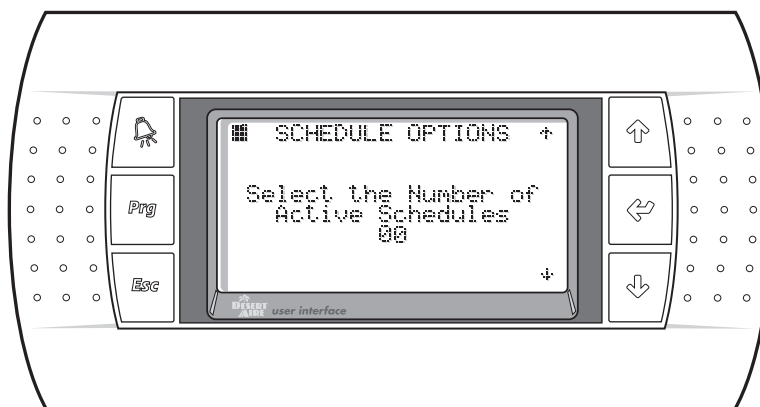

Figure 33
2.5.1. Schedule Options (Figure 33)